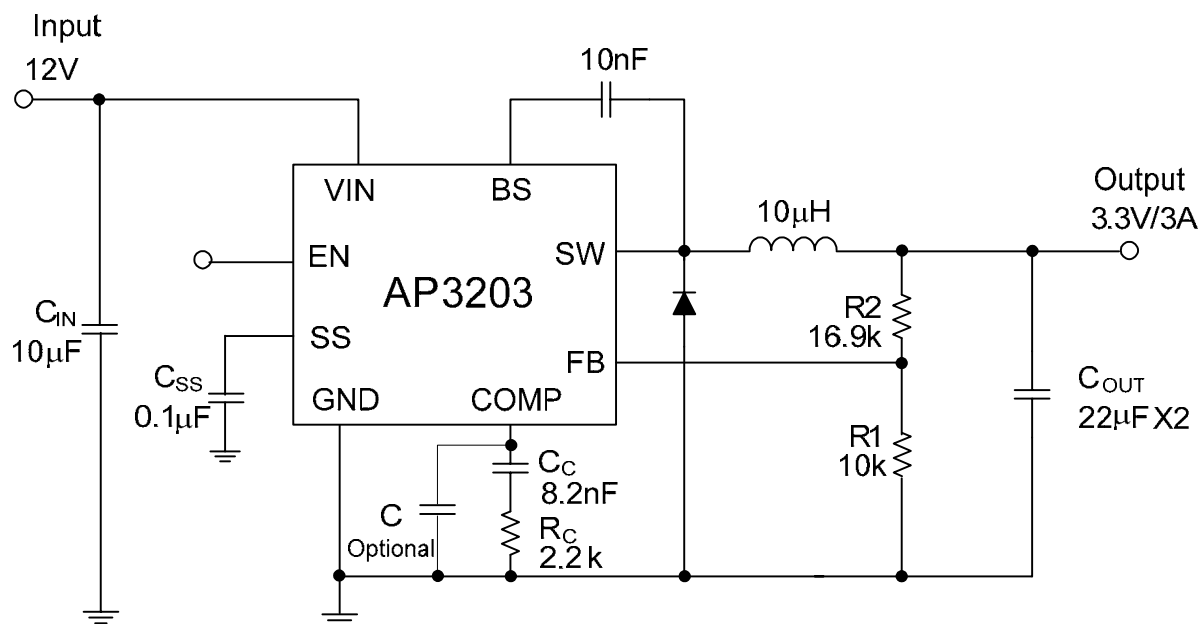

Figure 8. Typical Application of AP3203
**380kHz, 3A Asynchronous DC - DC Buck Converter****AP3203****Typical Performance Characteristics (Continued)** $T_A=25^{\circ}\text{C}$, $V_{IN}=12\text{V}$, $V_{OUT}=3.3\text{V}$, unless otherwise noted.Figure 8. $R_{DS(on)H}$ vs. TemperatureFigure 9. $R_{DS(on)L}$ vs. TemperatureFigure 10. Output Ripple